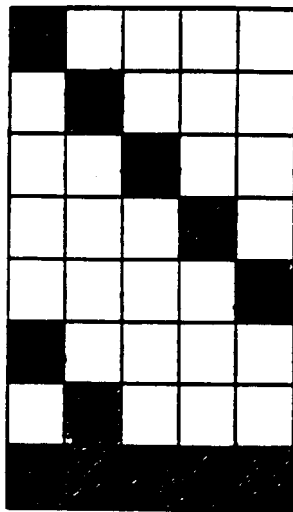

Figure 2
2. Press the "1" key one time and then press the "2" key one time. The LCD will display an oblique pattern (see Figure 2).